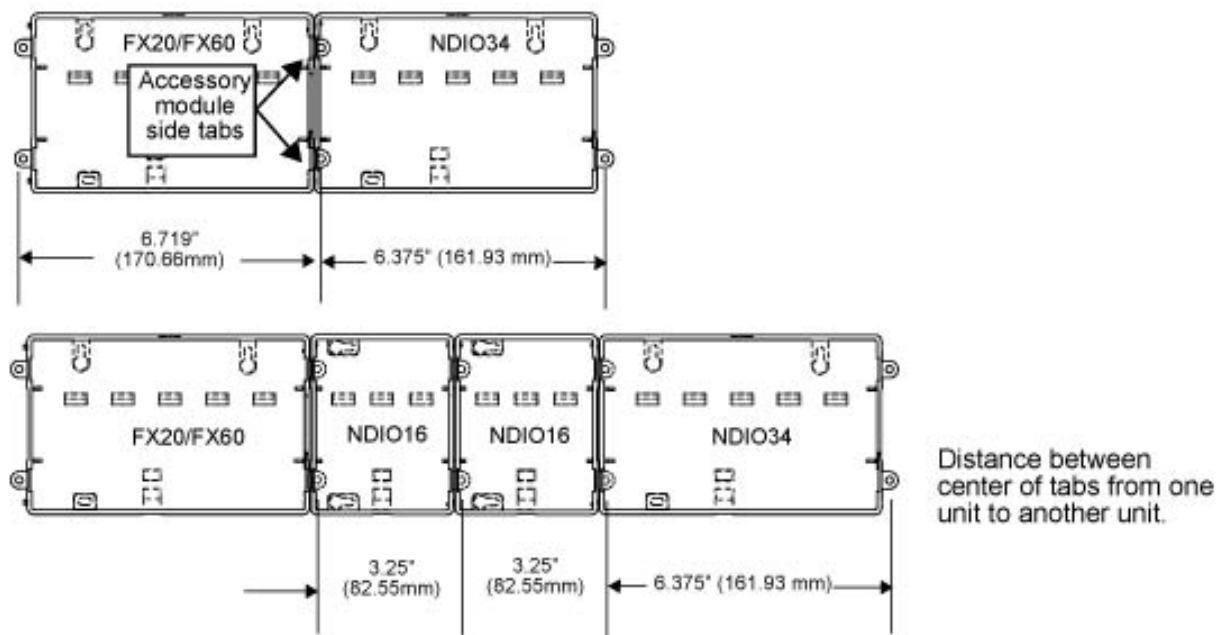

Figure 2: Tab Mounting Dimensions
- If DIN rail mounting is impractical, use screws in mounting tabs on the FX20/FX60, the NDIO34, and any other connected accessory (for example, a power module and an NDIO16 module). See Figure 2 for tab dimensions.